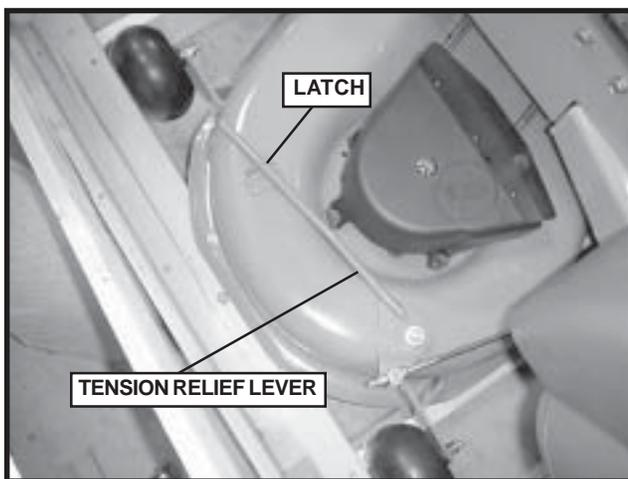

FIGURE 20
10. Fold the tension relief lever in to apply spring pressure and latch. See Figure 20.